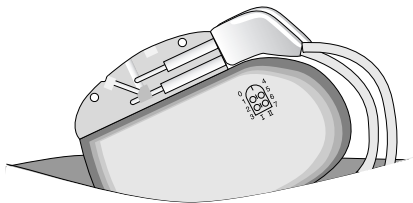

Figure 11. *Implant neurostimulator.*
14. Place the neurostimulator into the subcutaneous pocket, with the etched identification side facing outward away from the muscle layer of the body (Figure 11).